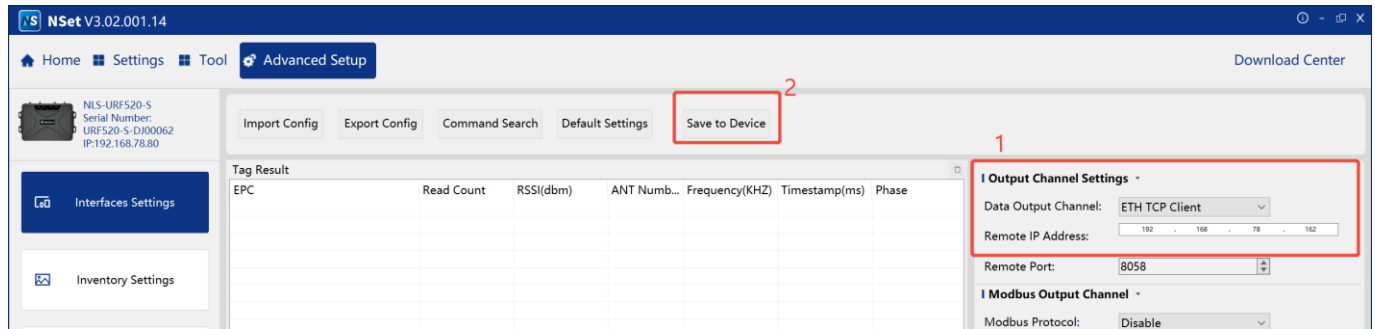

Figure 3-3
- (1) The host acts as a TCP server, and the URF device acts as a TCP client to actively initiate a connection.
- (2) Use NSET to connect to the device and enter the settings interface, as shown in Figure 3-3. Set the data output channel to Ethernet TCP Client, set the remote IP address and port to the IP and port of the host server, then save to the device, and finally exit NSET.